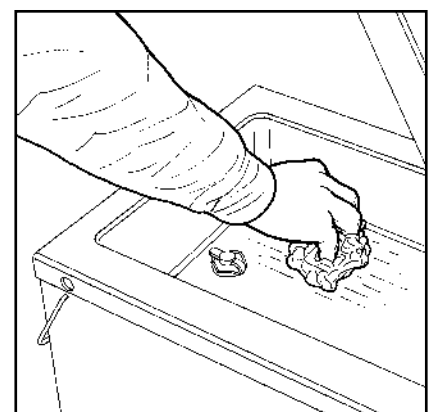

Fig. 3
- Using a cloth soaked in a detergent and/or disinfectant solution, clean the bottom and sides of the vacuum chamber (**Fig. 3**); after cleaning, refit the parts by repeating the above operations in reverse order.